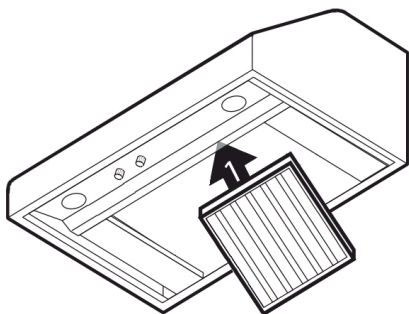

FIGURE 16: INSTALL THE STAINLESS STEEL BAFFLES – PART A
- a. Angle the baffle filter and insert front edge into front channel of hood (FIGURE 16).